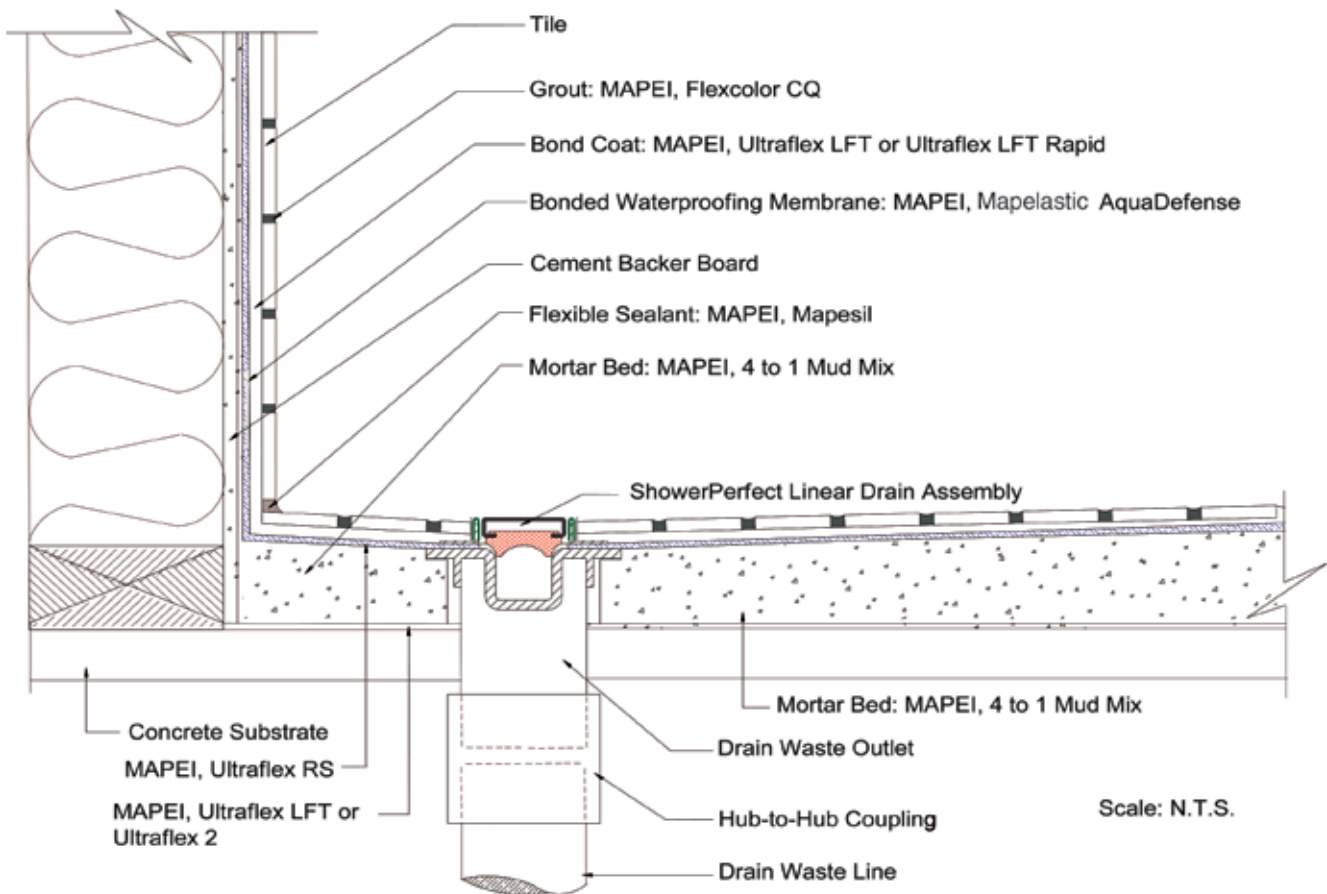

Figure 4: Drain orientation – set 3" to 6" (7,5 to 15 cm) from wall.
4. Recommended location, size and length of the Linear Drain Body in relation to the 2" (5 cm) waste pipe line (or "stub-out") (see Figure 4):